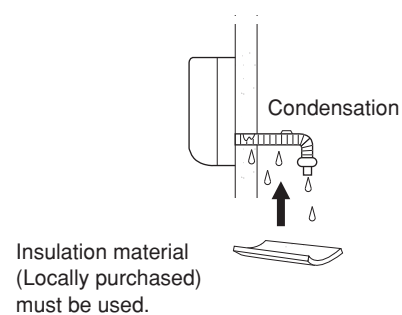

Fig. 45
- c) If the drain hose will run in the room, insulate the hose with insulation* so that chilled condensation will not damage furniture or floors. (Fig. 45)